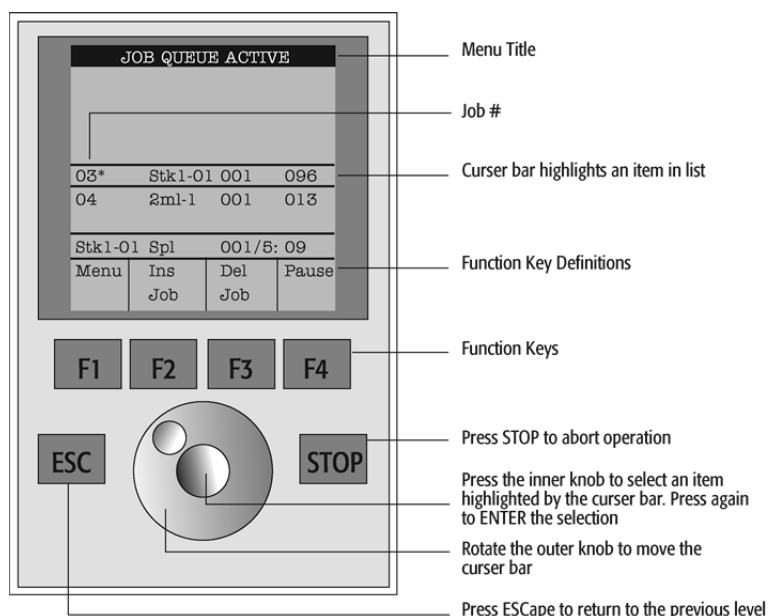

Figure 1. PAL Control Terminal and Conventions
- Figure 1. PAL Control Terminal and Conventions
Figure 1 illustrates the PAL control terminal and the conventions used to enter, edit, and view information.